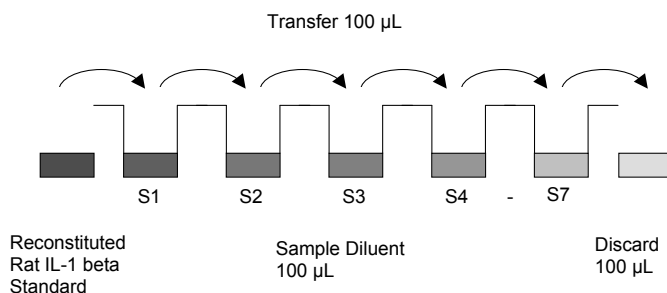

Fig. 7 Dilute standards - microwell plate
3. Standard dilution on the microwell plate (Alternatively the standard dilution can be prepared in tubes - see “External standard dilution” on page 3): Add 100 μL of Sample Diluent in duplicate to all standard wells. Pipette 100 μL of prepared standard (see “Rat IL-1 β standard” on page 3, concentration = 4000 pg/mL) in duplicate into well A1 and A2 (see Table 1). Mix the contents of wells A1 and A2 by repeated aspiration and ejection (concentration of standard 1, S1 = 2000.0 pg/mL), and transfer 100 μL to wells B1 and B2, respectively (see Figure 7). Take care not to scratch the inner surface of the microwells. Continue this procedure 5 times, creating two rows of rat IL-1 β standard dilutions ranging from 2000.0 to 31.3 pg/mL. Discard 100 μL of the contents from the last microwells (G1, G2) used.